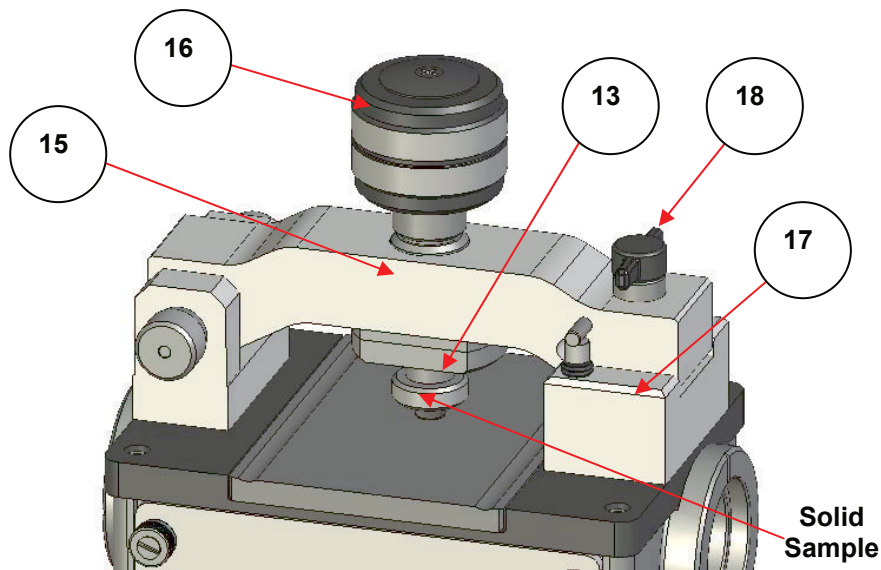

Figure 14. Silver Gate™ ATR Accessory with bridge (15) closed and a powder sample between the anvil (13) and ATR crystal
When analyzing for a powder sample it is best to use a flat ATR crystal top plate assembly on a Silver Gate™ ATR accessory fitted with a bridge and clamp anvil assembly (15). The best anvil (13) to choose would be the stainless steel anvil P/N GS10567. (See Figure 14.)
2. Open the bridge (15) and position it past the stay up catch device (19). This allows for easier access to the ATR crystal surface area to position the sample correctly.
When analyzing for a flat solid sample it is best to use a flat ATR crystal top plate assembly on a Silver Gate™ ATR accessory fitted with a bridge and clamp anvil assembly (15). The best anvil (13) to choose would be the stainless steel anvil P/N GS10567. (See Figure 14.)
4. Close the bridge (15) and lock it to its support block (17) via the quick lock/release screw (18).
5. Begin turning the torque knob assembly (16) clockwise to lower the stainless steel anvil (13) towards the sample surface. Continue
When analyzing for a pellet/bead or irregular shaped sample it is best to use a flat ATR crystal top plate assembly on a Silver Gate™ ATR accessory fitted with a bridge and clamp anvil assembly (15). The best anvil (13) to choose would be the concave recessed pellet anvil P/N GS10532. (See Figure 14.)
5. Begin turning the torque knob assembly (16) clockwise to lower the pellet anvil (13) towards the sample surface. As the concave, recessed surface of the pellet anvil begins to touch the pellet/bead sample it will help to keep the sample centralised over the ATR crystal.
When analyzing for a fiber sample it is best to use a flat ATR crystal top plate assembly on a Silver Gate™ ATR accessory fitted with a bridge and clamp anvil assembly (**15**). The best anvil (**13**) to choose would be the stainless steel anvil P/N GS10567. (See Figure 14.)